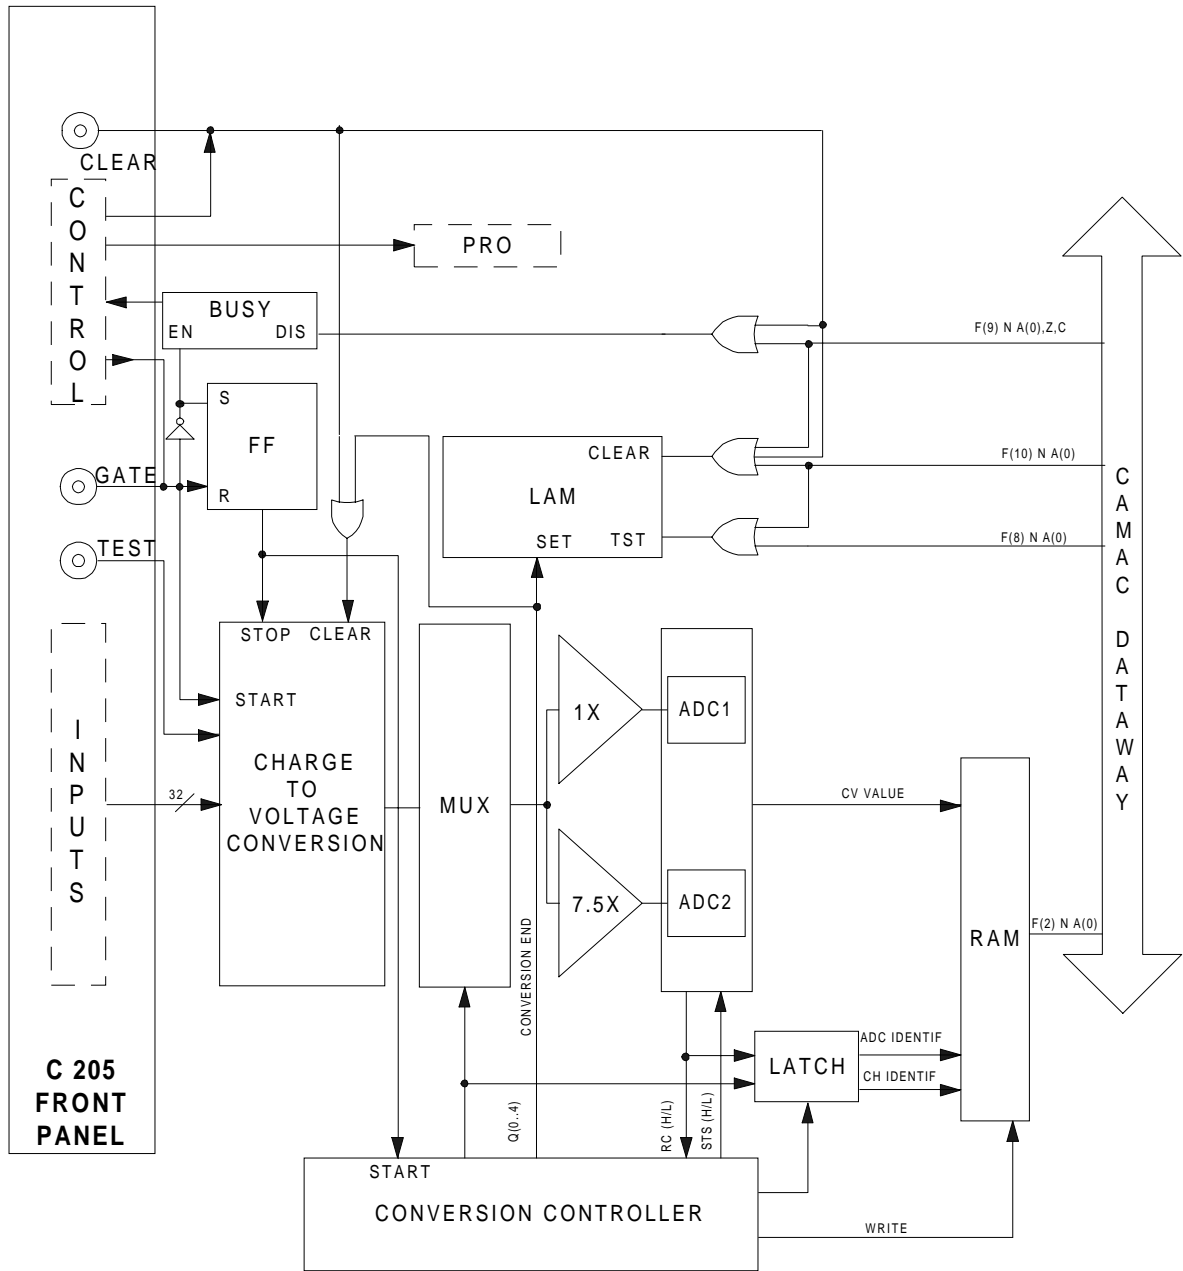

Fig. 1.1 – Functional block diagram of the module
The functional block diagram of the module is shown in Fig. 1.1, p.5.
- a 12-bit word generated by the ADC following the 1X-gain amplifier (ADC1 in Fig. 1.1, p.5);
- a 12-bit word generated by the ADC following the 7.5X-gain amplifier (ADC2 in Fig. 1.1, p.5), corresponding to 15 bit resolution.